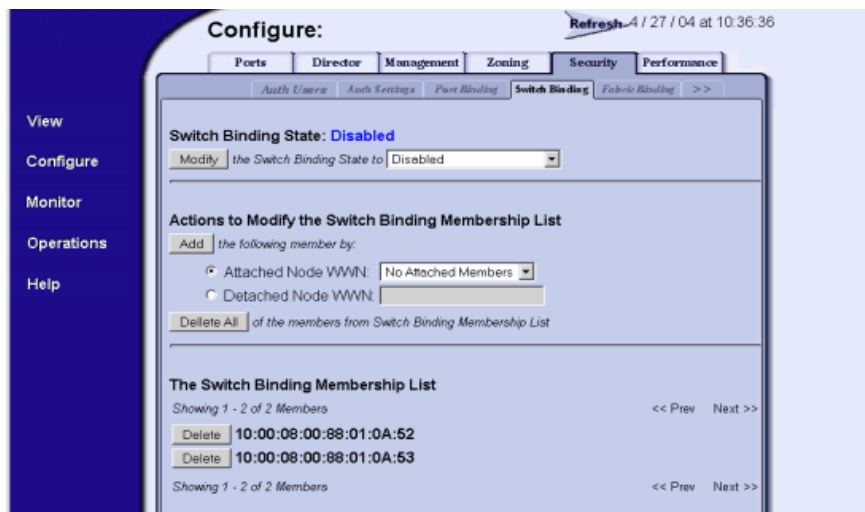

Figure 2-77 Configure Panel (Security Page with Switch Binding Tab)
1. At the *Configure* panel, click the *Switch Binding* tab. The *Security* page displays with the *Switch Binding* tab selected (Figure 2-77).